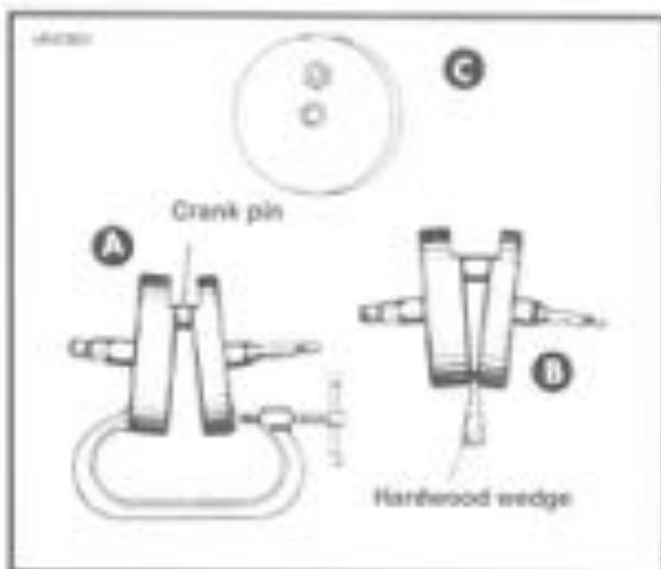

Figure 3-82. Correcting Flywheel Alignment
11. See Figure 3-82. Flywheel may be out of true three ways, A, B and C or a combination of two of the three ways.